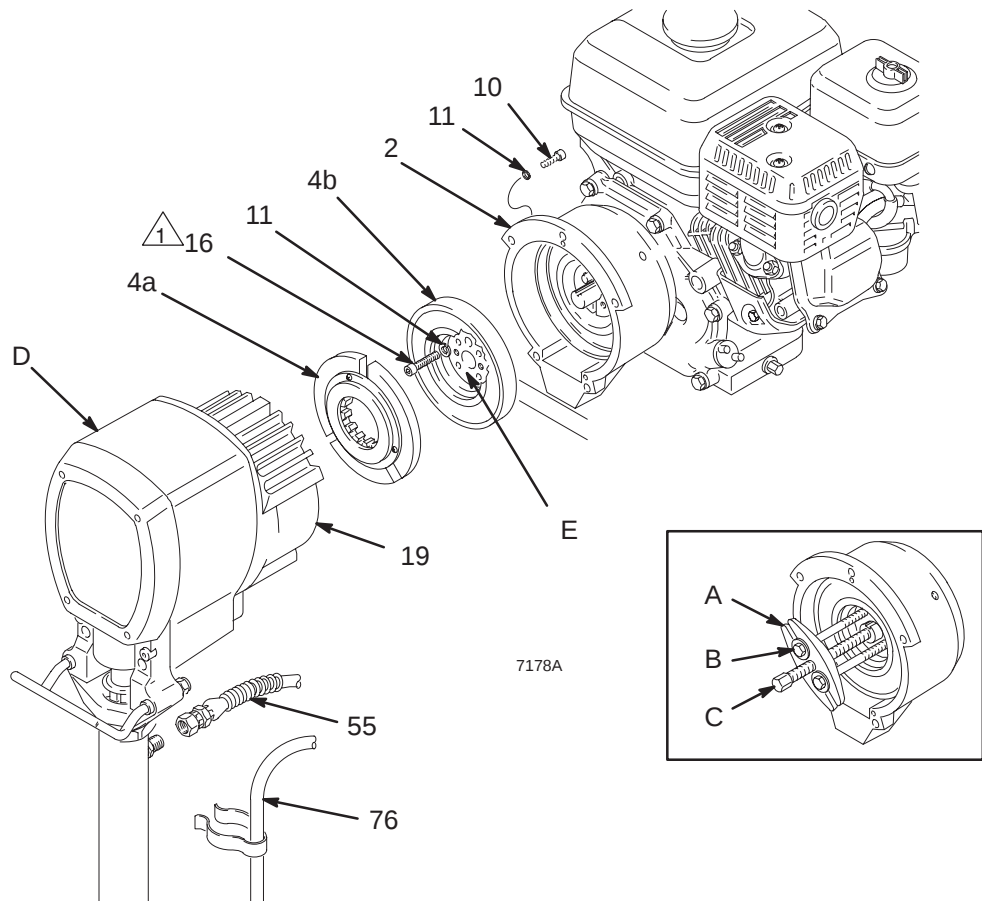

Fig. 10
NOTE: Refer to Fig. 10 for this procedure.
2. Disconnect the hose (55) from the displacement pump. Remove the spring clips and drain hose (76) from the displacement pump.
3. Remove the two bottom screws (10) and lockwashers (11) first, then remove the two side screws (10) and lockwashers (11), and last remove the top screw (10) and lockwasher (11).
4. Tap lightly on the back of the bearing housing (21) with a plastic mallet to loosen the assembly (D) from the clutch housing. Pull the assembly away.
- a. Remove the four socket head capscrews (16) and lockwashers (11). Install two of the screws in the threaded holes (E) in the rotor. Alternately tighten the screws until the rotor comes off. See Fig. 10. If the rotor is difficult to remove, use procedure b.
- b. You can use a standard steering wheel puller (A). However, two 1/4-22- x 3 or 4 in. long screws (B) are also needed. Replace the short screws of the steering wheel puller with the longer screws (B). Turn the screws (B) into the threaded holes (E) of the rotor (4b). Tighten the cap screw (C) of the tool until the rotor comes off. See the Detail in Fig. 10.